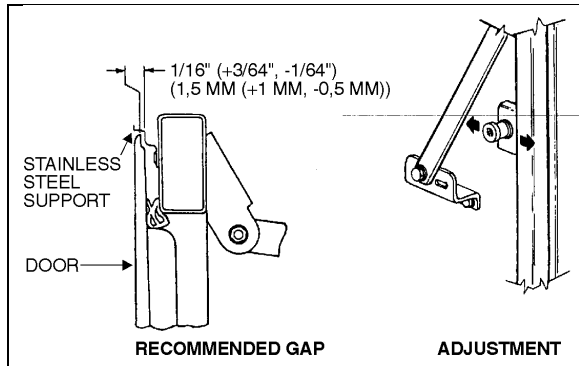

FIGURE 27: BAGGAGE COMPARTMENT DOOR 18069
9. Loosen the striker pins just enough to allow them to be moved with a hammer. Working from inside compartment and with the door well-closed (second catches engaged), hit the pin washers to horizontally move the pins and consequently the door, while an outside assistant checks the fit. A gap of  $1/16"$  ( $+3/64"$ ,  $-1/64"$ ) ( $1,5 \text{ mm}$  ( $+1 \text{ mm}$ ,  $-0,5 \text{ mm}$ )) between the stainless steel support for the lateral panel and the door panel lip is recommended. Refer to figure 27.